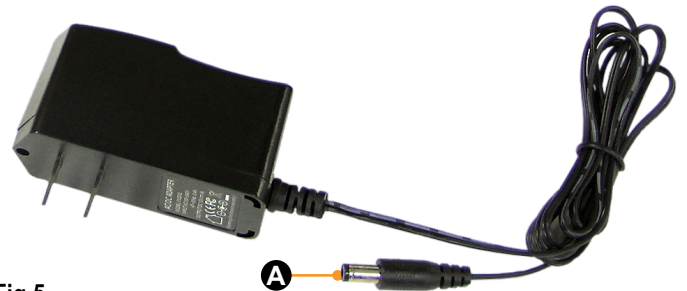
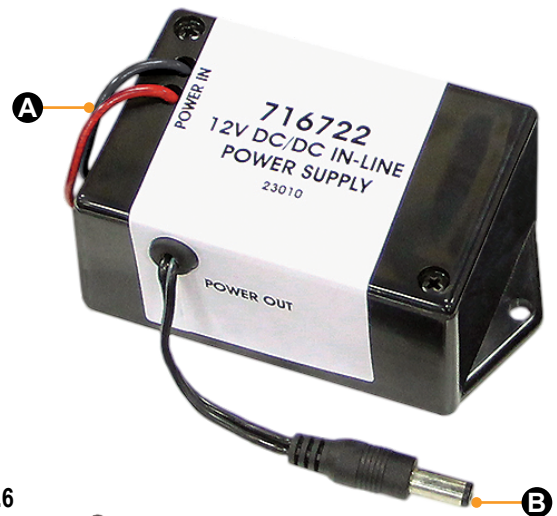

Fig.5
Fig.6
7. Use the 120V AC/DC adapter (Fig.5) for a power source by inserting the power supply's barrel connector (Fig.5A) into the back of the cellular gateway (Fig.7A), or plug the 12V DC/DC barrel connector (Fig.6B) into the back of the cellular gateway (Fig.7A).
8. Plug the 120V AC/DC adapter (Fig.5) into a wall outlet or utilize the 12V DC/DC adapter (Fig.6) by connecting the red and black wires (Fig.6A) to a 12V power source.